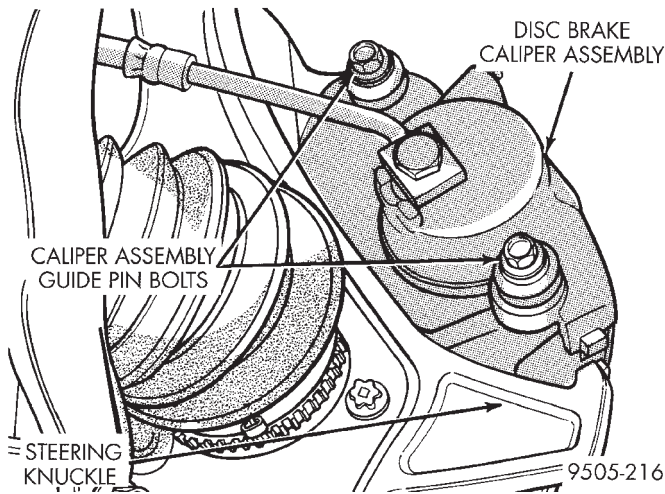

Fig. 47 Removing Caliper Guide Pin Bolts
(3) Slightly pry the piston back into the bore of the disc brake caliper. The piston is to be pryed back by inserting a soft tool (such as a trim stick) between the inboard brake shoe and the rotor and prying against the inboard brake shoe. This will force the piston back into the caliper.
(4) Remove the 2 brake caliper to steering knuckle guide pin bolts (Fig. 47).
(8) Install the caliper guide pin bolts (Fig. 47) and tighten to a torque of 22 N·m (16 ft. lbs.).
(9) Install the wheel and tire assembly.
(10) Tighten the wheel mounting stud nuts in proper sequence until all nuts are torqued to half specification. Then repeat the tightening sequence to the full specified torque of 135 N·m (100 ft. lbs.).
(11) Remove jackstands or lower hoist. **Before moving vehicle, pump the brake pedal several times to insure the vehicle has a firm brake pedal.**
(12) Road test the vehicle and make several stops to wear off any foreign material on the brakes and to seat the brake shoes.